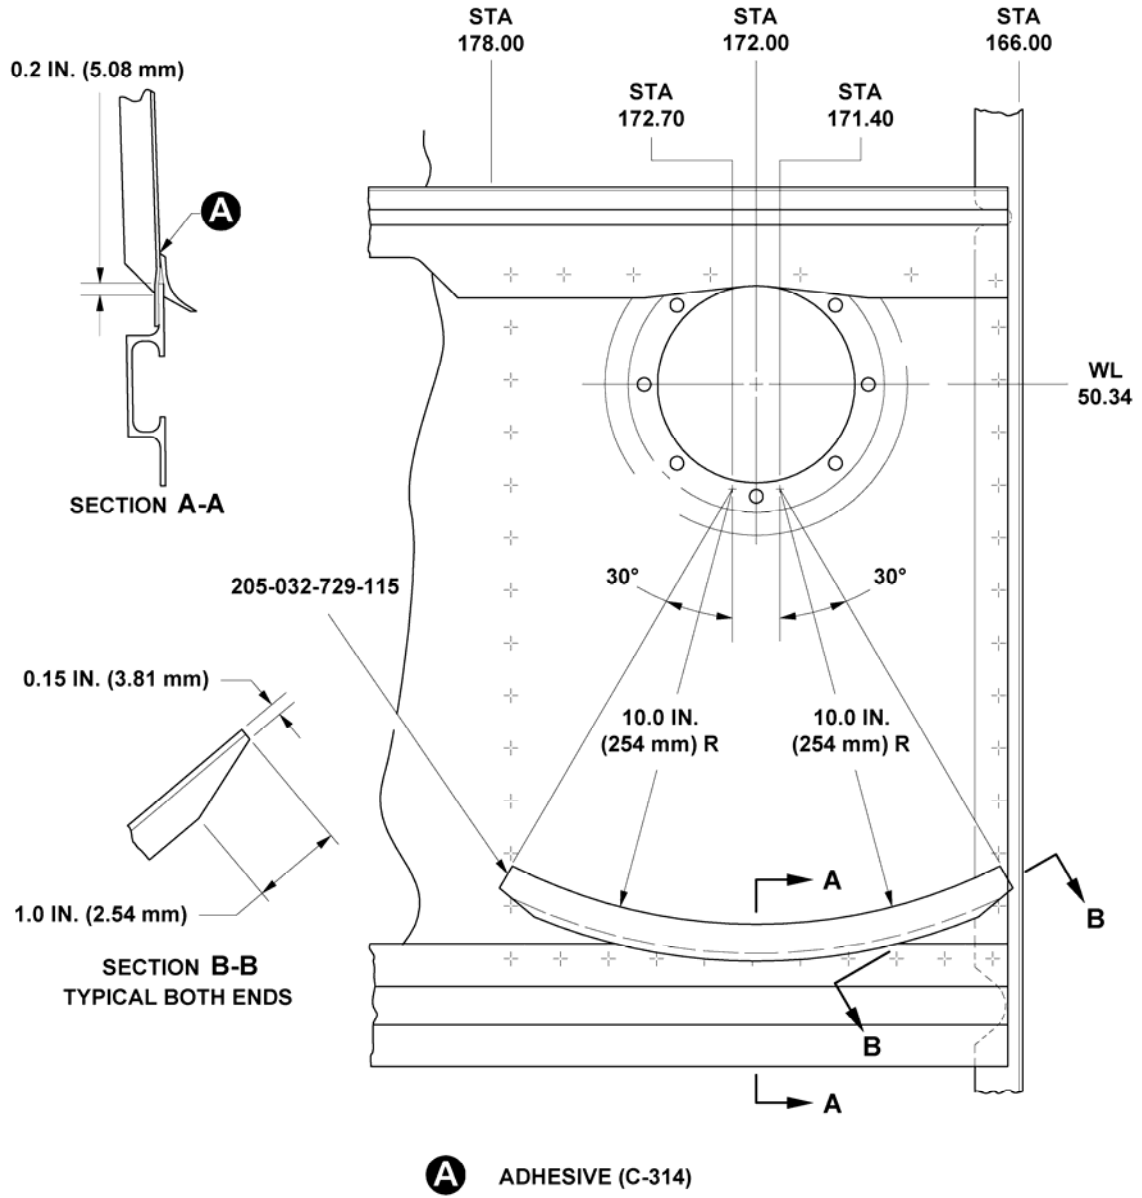

Figure 1
6. Mark deflector location on panel as shown on Figure 1. Apply one smooth and even coat of adhesive (C-314) on both surfaces and allow to air dry for 15 to 30 minutes.